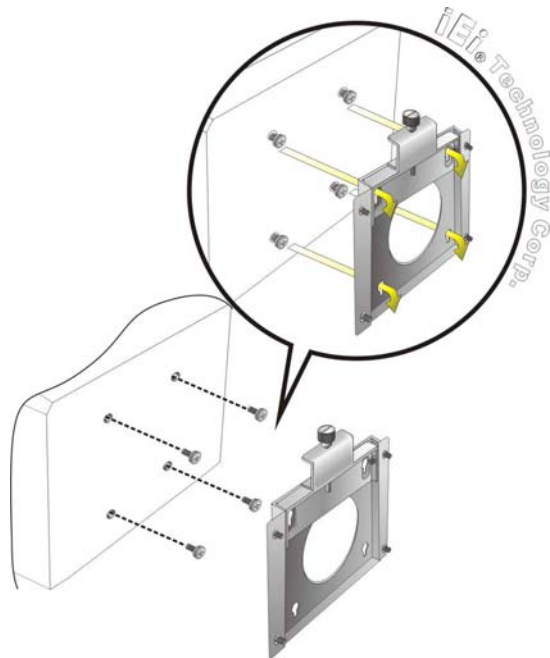

Figure 3-12: Chassis Support Screws
- Step 6:** Insert the four monitor mounting screws provided in the wall mounting kit into the four screw holes on the rear panel of the IOVU-752S and tighten until the screw shank is secured against the rear panel (**Figure 3-12**).
- Step 8:** Carefully insert the screws through the holes and gently pull the monitor downwards until the monitor rests securely in the slotted holes (**Figure 3-12**). Ensure that all four of the mounting screws fit snugly into their respective slotted holes.